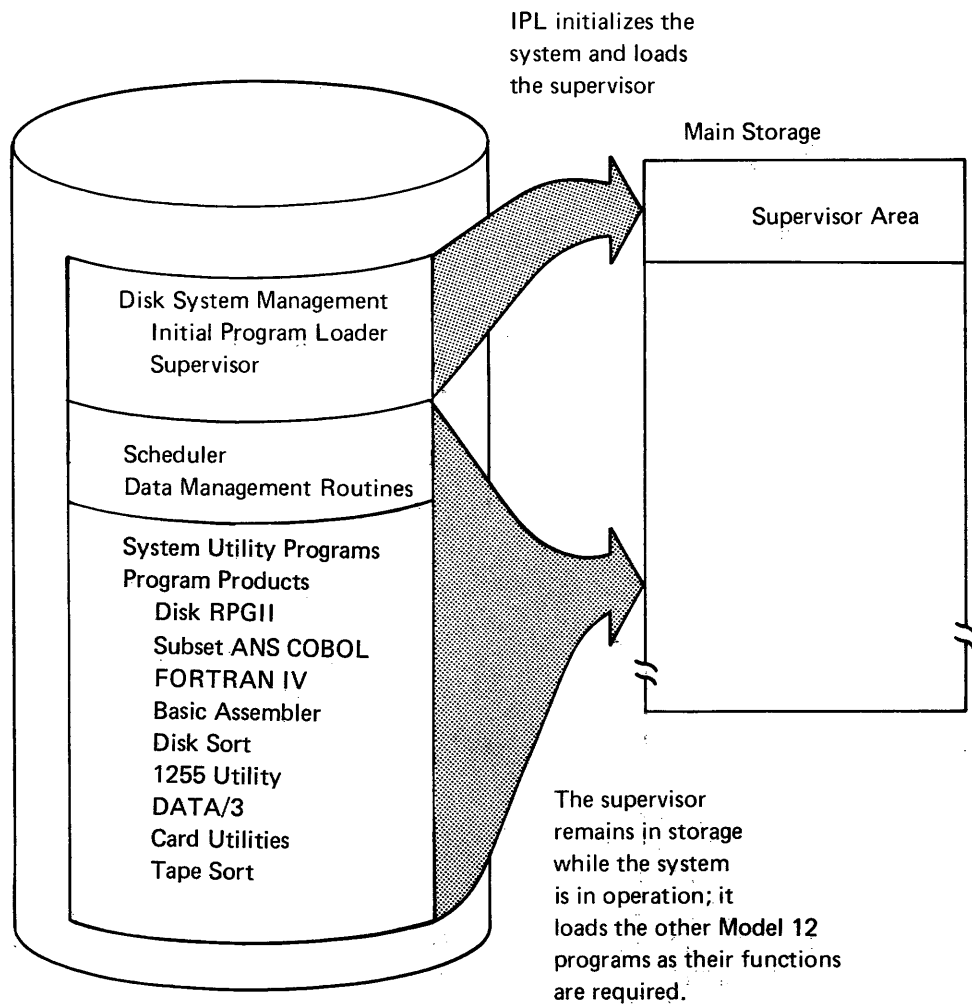

Figure 1. System/3 Model 12 Programming Support.
The System/3 Model 12 programming support (Figure 1) consists of the system control program (SCP) and program products (PP).